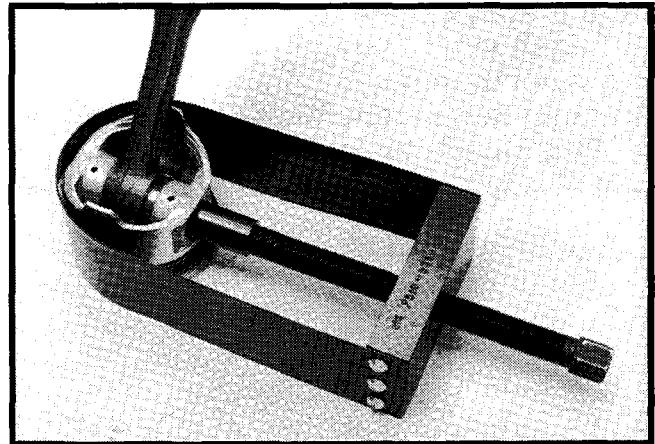

Figure 23.
6. Assemble the connecting rod and piston, using tool CU40007. Coat the piston pin with a film of engine oil. See Figure 23.